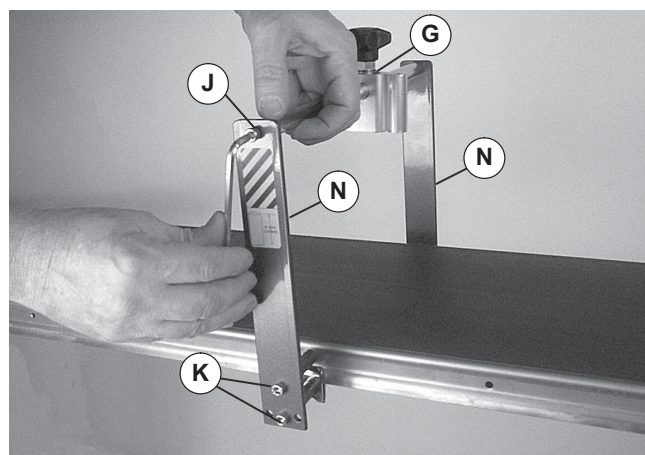

Figure 11
4. Loosely install screw (K) and spacer (P) in lower hole of bracket and mounting clip (Q).
6. Loosely attach crossbar & positioner (Figure 11, item G) to support brackets (N) with screws (J).